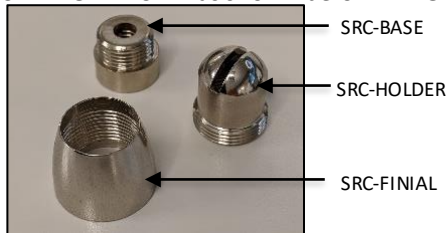

FIG. 11 – SLIP RING COUPLER (1) CONTENTS
- Dis-assemble the SLIP RING COUPLER (1) as shown below in FIG.11 into three components SRC-BASE, SRC-HOLDER and SRC-FINIAL.